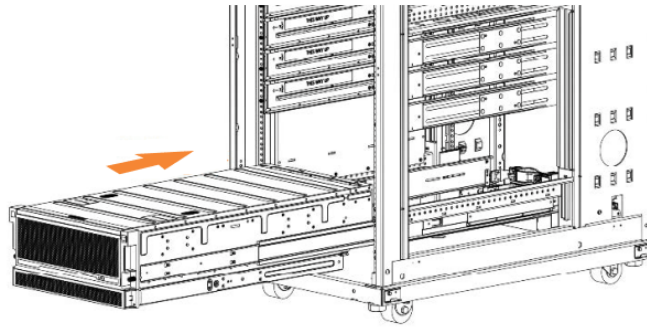

Figure 49. Example installation of the enclosure in the rack
- Install the expansion enclosure in the lowest position in the rack. Figure 49 on page 90 shows an example.